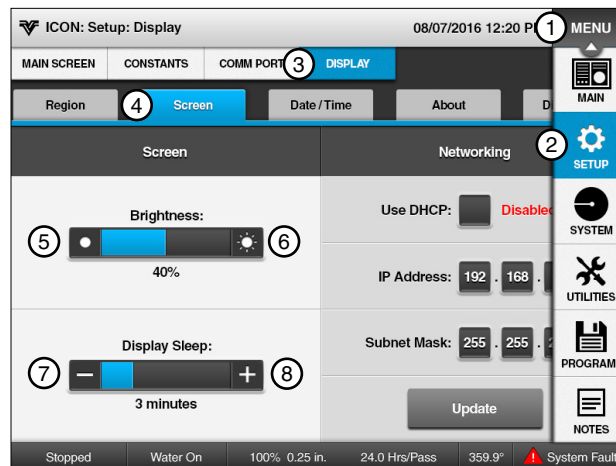

Figure 31-1
2. Use Screen to adjust the Screen Brightness and Display Sleep delay timer. See Figure 31-1.